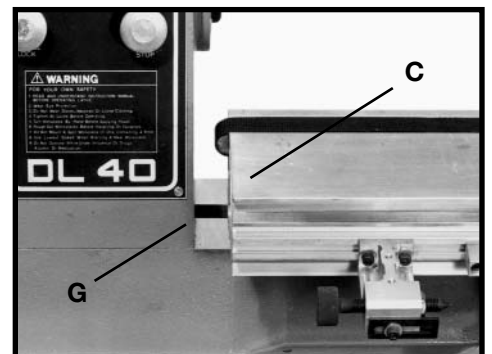

Fig. 31
6. Slide duplicator rail (C) Fig. 31 to the left until edge of rail is approximately 1" from right side (G) of headstock.